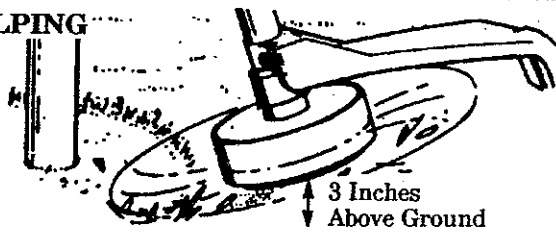

Figure 15
2. **SCALPING** - FIGURE 15 . The scalping technique removes unwanted vegetation. Hold the bottom of the trimmer head about 3 inches above the ground and at an angle. Allow the tip of the line to strike the ground around trees, posts, monuments, etc. *This technique increases line wear.*